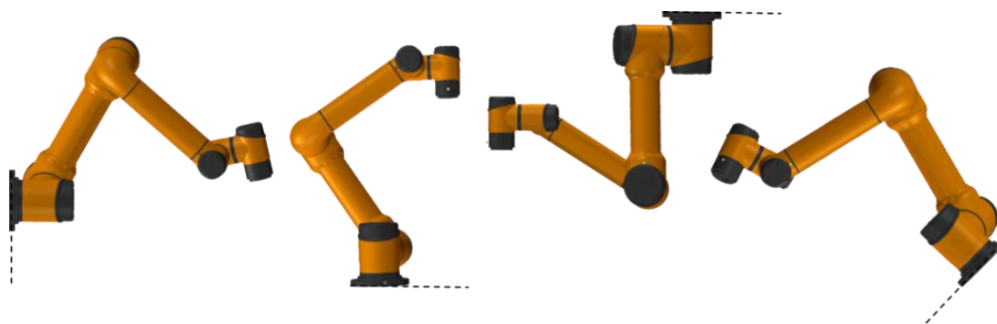

Figure 3-2 Supported Installation Pose
The AUBO-iS(FT) series robot arm features a 360° installation position and pose adaptation capability, and thus supports various installation methods including base mounting, ceiling mounting and wall mounting, as shown in Figure 3-2. After the robot arm is installed, the teach pendant software will automatically detect and adjust the robot arm's work parameters upon power-on.